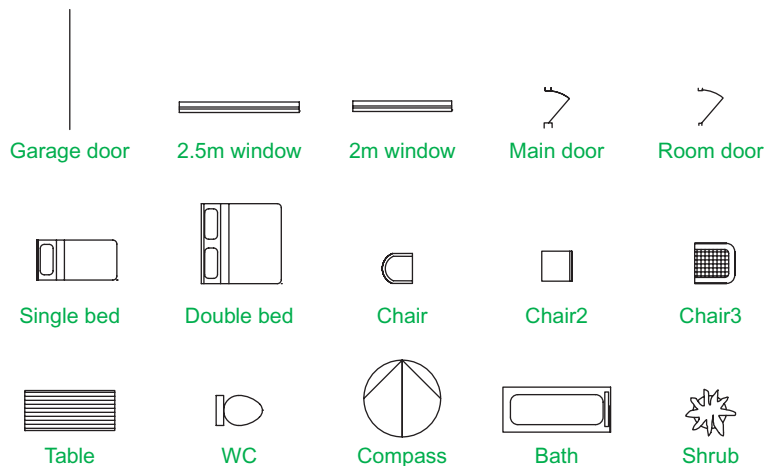

Fig. 9.1 First example – **Blocks** – symbols to be saved as blocks
1. Construct the building symbols as shown in Fig. 9.1 to a scale of 1:50.